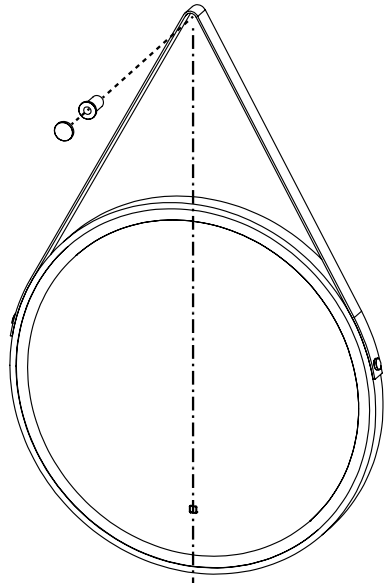

Fig 4. - Fixing support hook
7. With the mirror in position, carefully mark the position of the strap support hook using a soft pencil and ensuring the strap is taut and the hook is central to the mirror, *see Fig. 4*.